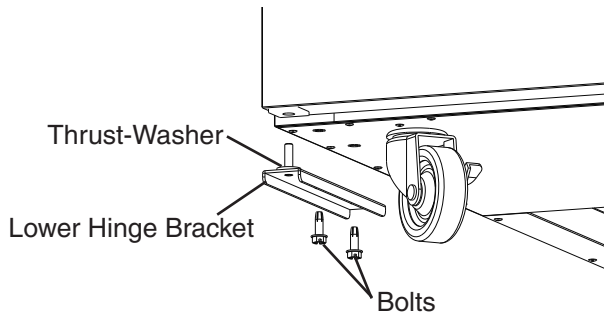

Fig. 16
- 11) Move the door into position and maintain a hold on the door. Make sure the thrust-washer is in place, then install the lower hinge bracket. Do not tighten the bolts yet. Start each bolt for a few threads only and leave loose. See Fig. 16.